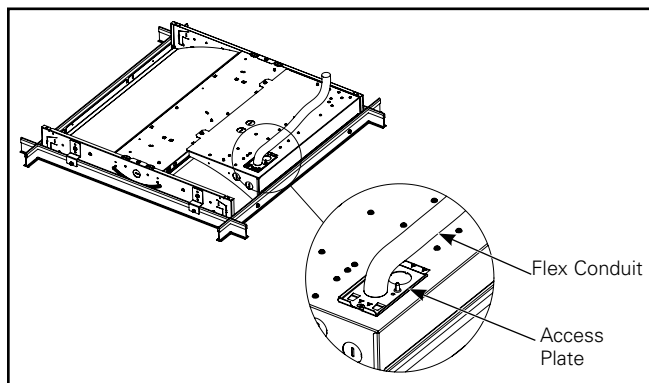

Figure 14.
- Tuck all wires and P-nuts into the fixture junction box, replace electrical access plate, and snap securely into place. (Figure 14)